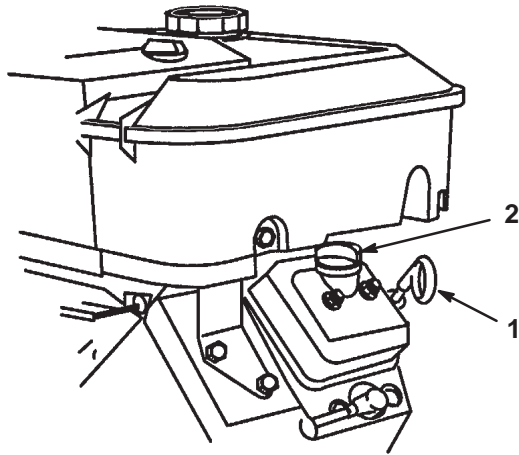

Figure 11
2. Remove the dipstick and wipe it with a clean rag (Fig. 11). Insert the dipstick into the tube and make sure it is seated fully. Remove the dipstick and check the oil level.
3. If the oil level is low, remove the filler cap from the valve cover (Fig. 11) and pour oil into the opening until the oil level is up to the Full mark on the dipstick; refer to Engine Oil, page 29, for the proper oil type and viscosity. Add the oil slowly and check the level often during this process. **Do not overfill.**